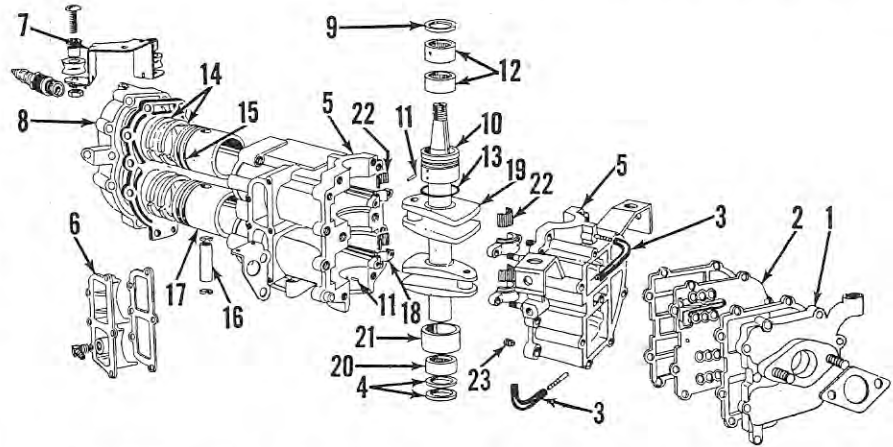

Fig. Mc30 — Exploded view of power head used on 5 horsepower models.
5 Horsepower Models: Refer to Fig. Mc30. One half of the crankcase is integral with the cylinder block. Upper and lower main bearings are of the needle roller type enclosed in a cage. The center main bearing of die-cast bronze is integral with the cylinder block. To disassemble, remove the cylinder head (8), inlet manifold (1) and transfer port covers (6); then unbolt and remove the crankcase front half. Pistons, rods, crankshaft and bearings are now accessible for removal and overhaul as outlined in the appropriate following paragraphs.